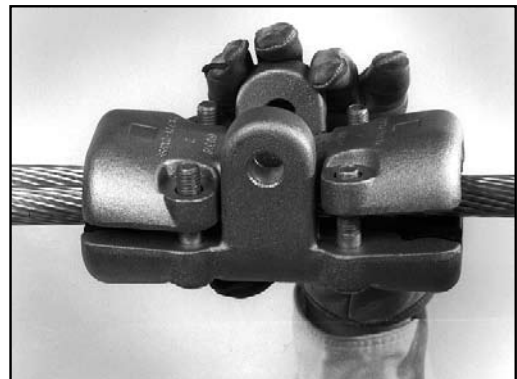

FIGURE 4 - INSTALL KEEPERS (TOP UNITS)
- 2.03 Install the keepers (top units) into place making sure to align captured bolts in the base with the holes in the keepers. (Figure 4)